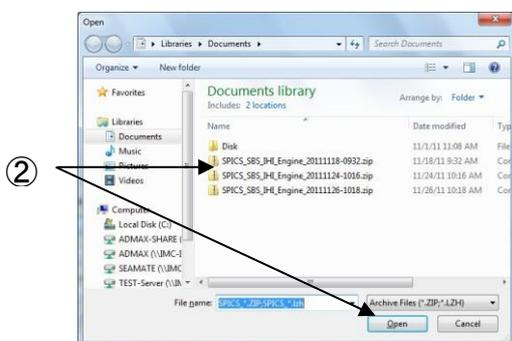
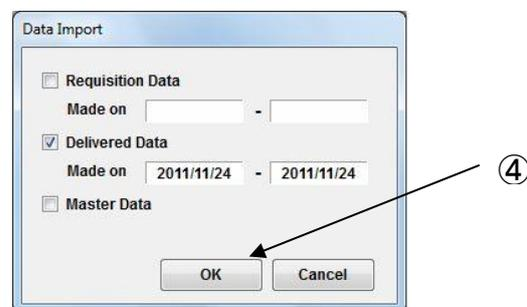
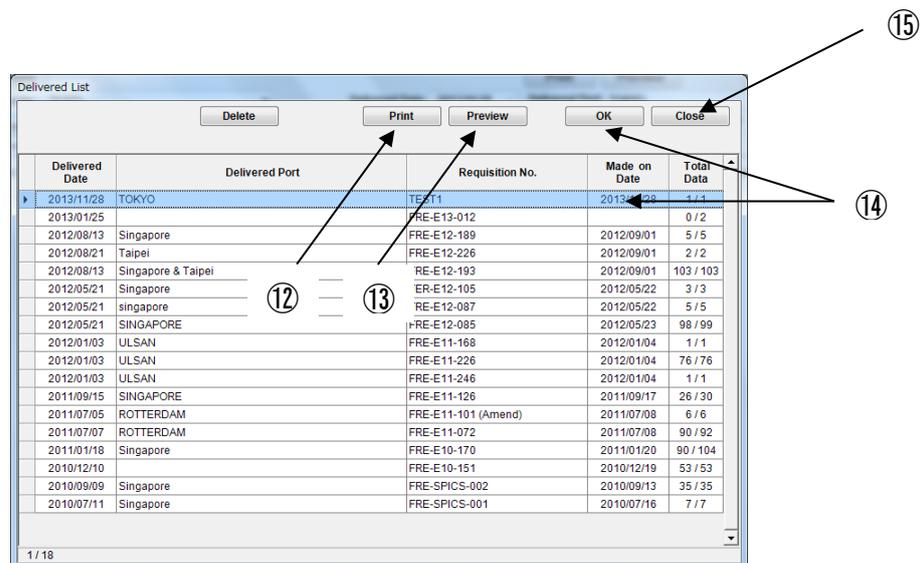

Fig.9-2 Open Dialog
Fig.9-3 Data Import
Fig.9-4 Delivered List Dialog
- (2) “Open Dialog”(Fig9-2) is displayed. Select file for import. Then, select [Open].
- (7) "Delivered"(Fig.9-3) screen is displayed.
- (8) If you want to print delivered parts list, select [Print].
- (9) If you want to see print preview, select [Preview].
- (10) Select [Delivered Date].
- (11) "Delivered List Dialog "(Fig.9-4) is displayed.
- (12)If you want to print delivered day list, select [Print].
- (13) If you want to see print preview, select [Preview].
- (14) On the delivered date list, double-click or [OK] to review other delivered parts list.
- (15) Select [Close] to close "Delivered List" dialog, and return to "Delivered"(Fig.9-2) screen.